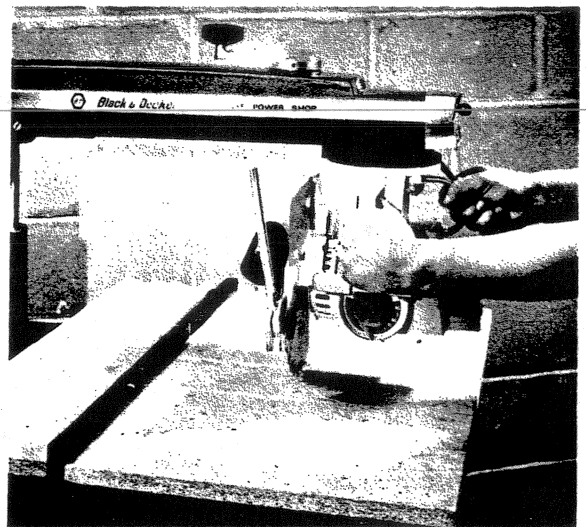

FIGURE 2
- (e) With the saw still running and your left hand still on the handle release the yoke lock with your right hand and pull it with sufficient strength so the yoke clamp handle presses against the yoke locator pin bell pulling the yoke locator pin out of the hole in the roller head. You can now rotate the saw blade in a clockwise direction. Release the pressure on the bell and continue rotating the blade until the spring mounted yoke locator pin falls into the next hole. You have now cut in the table top a $\frac{1}{4}$ turn groove known as the swing line. The saw is now in the "in-rip" position. (Refer to figure 2) Loosen Rip Lock.